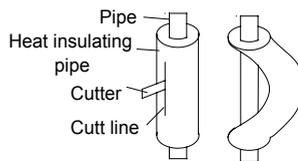

Fig.14
(4). When bending the pipe, do not bend it as is. The pipe will be collapsed. In this case, cut the heat insulating pipe with a sharp cutter as shown in Fig.14, and bend it after exposing the pipe. After bending the pipe as you want, be sure to put the heat insulating pipe back on the pipe, and secure it with tape.